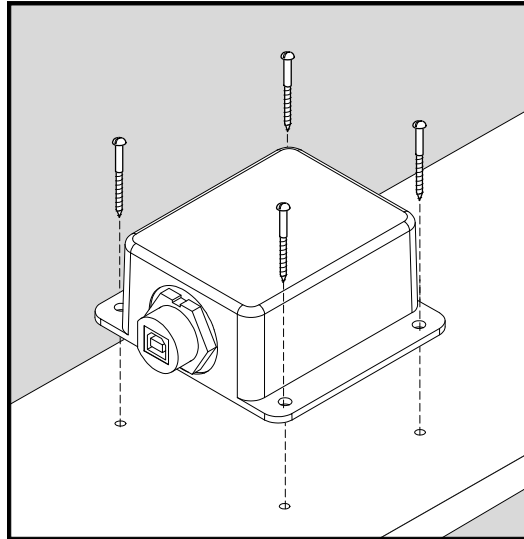

Figure 1 – Mounting the USB100
Attach the USB100 securely to the vessel using the included brass mounting screws or other fasteners as shown in Figure 1 below. Do not use threadlocking compounds containing methacrylate ester, such as Loctite Red (271), as they will cause stress cracking of the plastic enclosure.